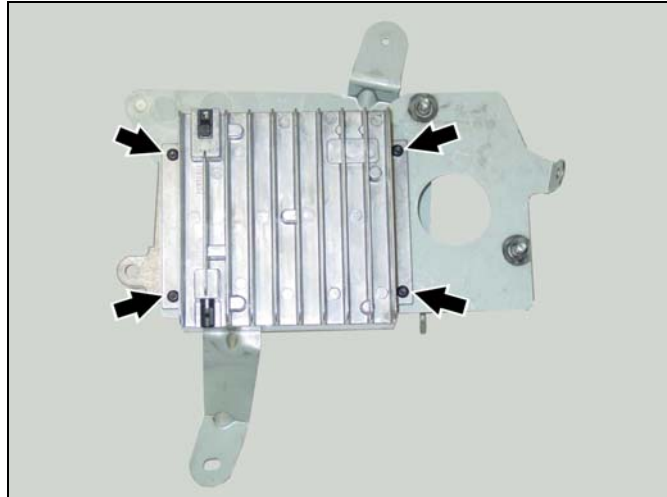

Figure 5
1. Mount the linear compensator to the bracket front with four T15 Torx self-tapping screws (Arrows, Figure 5).
**Note:** Orient the connector receptacles for the linear compensator facing the bracket end with the longer mounting arm (Figure 5).